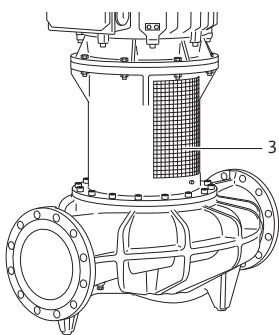

Fig. 38: Installed coupling protection metal sheet
- The pump may only be operated with the coupling protection metal sheets installed (Fig. 38, Item 3).